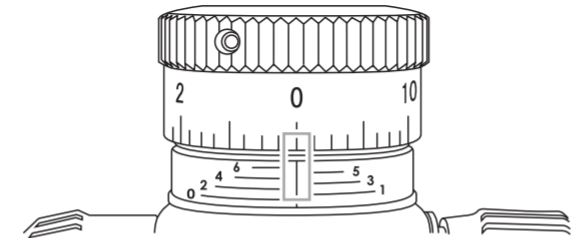

Fig. 5-2
- ③ Attach the Custom XR Turret.
- The Custom XR Turret locks the turret in place so that you are unable to dial below the zero setting. Be sure to carefully align the Zero mark on the Custom XR Turret with the vertical index line on the turret housing as mentioned in Step ④.
- ④ Align the zero mark on the turret with the vertical index line on the turret housing (Fig. 5-2).
- ⑤ Tighten the three screws by turning the hex key clockwise. Firmly tighten the screws so that the turret is secure.